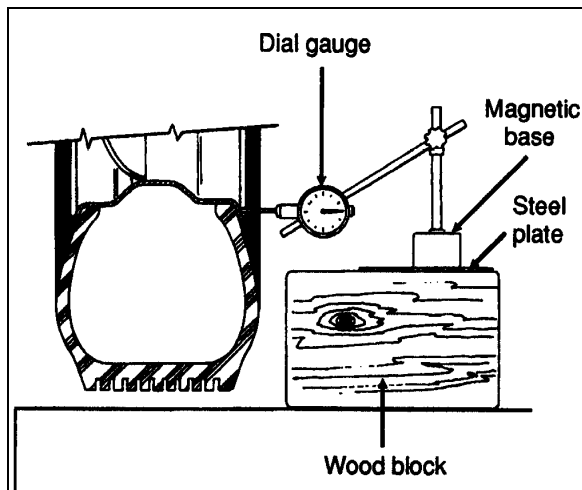

FIGURE 3: DIAL GAUGE INSTALLATION
2. Check wheel lateral run-out. Install a dial gauge as shown in figure 3, then rotate the wheel by hand one full turn. As the wheel turns, note any variation on the dial gauge;